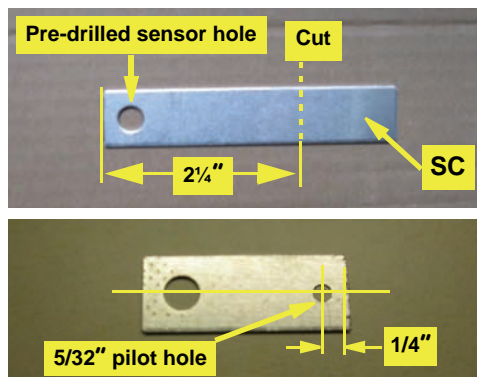

Figure 1c: Cut and drilled sensor bracket
c. Cut the aluminum sensor bracket **SC** $2\frac{1}{4}$ " from the end with the pre-drilled sensor mounting hole (Figure 1c - top), then drill a $\frac{5}{32}$ " pilot hole on the centerline of the bracket. Drill the hole so that its center is $\frac{1}{4}$ " from the cut end (Figure 1c - bottom).